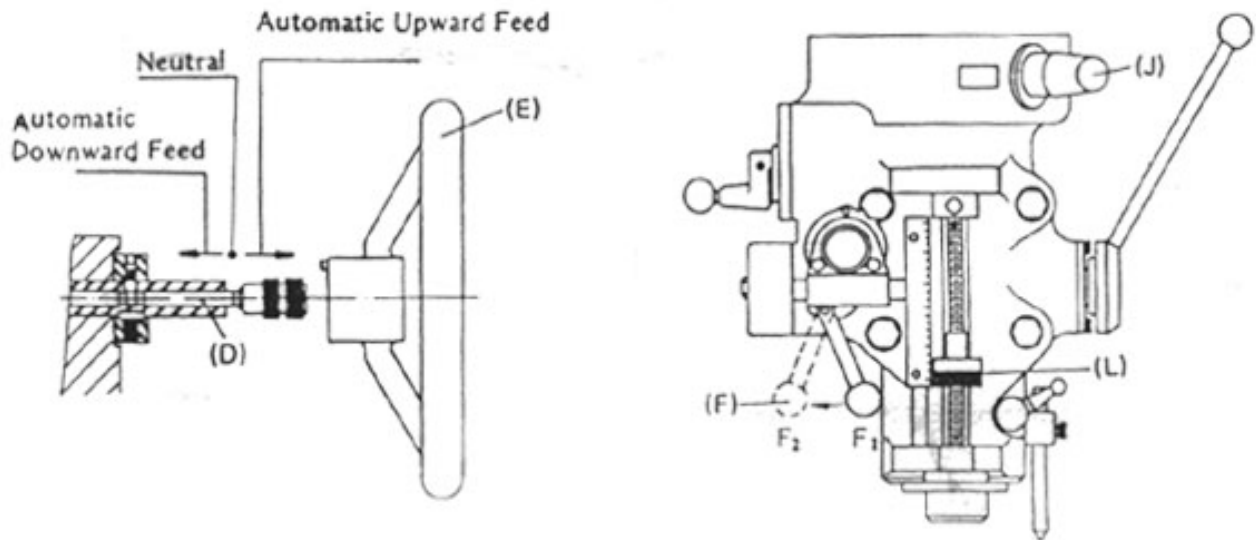

FIG6-3
NOTE : In manual feed, the feed control handle (F) must be placed at position (F) as shown in (FIGURE 6-3.)
To effectuate the manual micromotion feed, the power feed transmission engagement crank(J) (figure 6-3) shall be placed at "OUT" position, and feed reverse knob (d), at the neutral position.
- e. When the feed control lever knob (D) pressed inward (figure 6-3), it is for downward feed, and vice-versa. The middle position is neutral.